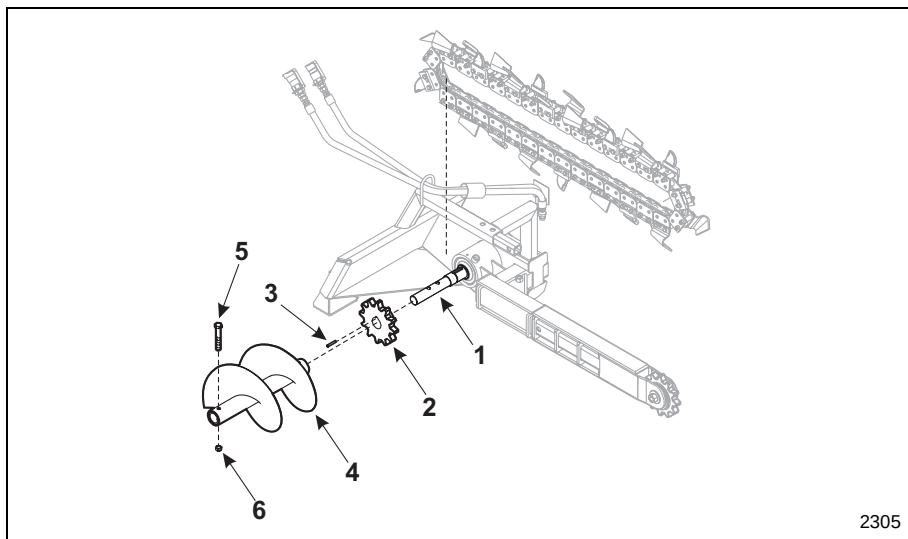

Figure 20 Remove Spoils Auger
3. Remove the spoils auger (Item 4, **Figure 20**).
5. Remove the chain from the drive sprocket (Item 2, **Figure 20**).
6. Remove and discard the old drive sprocket, making sure to keep the drive key (Item 3, **Figure 20**).
10. Install the spoils auger and secure it using the nut (Item 6, **Figure 20**) and bolt (Item 5, **Figure 20**) removed earlier.